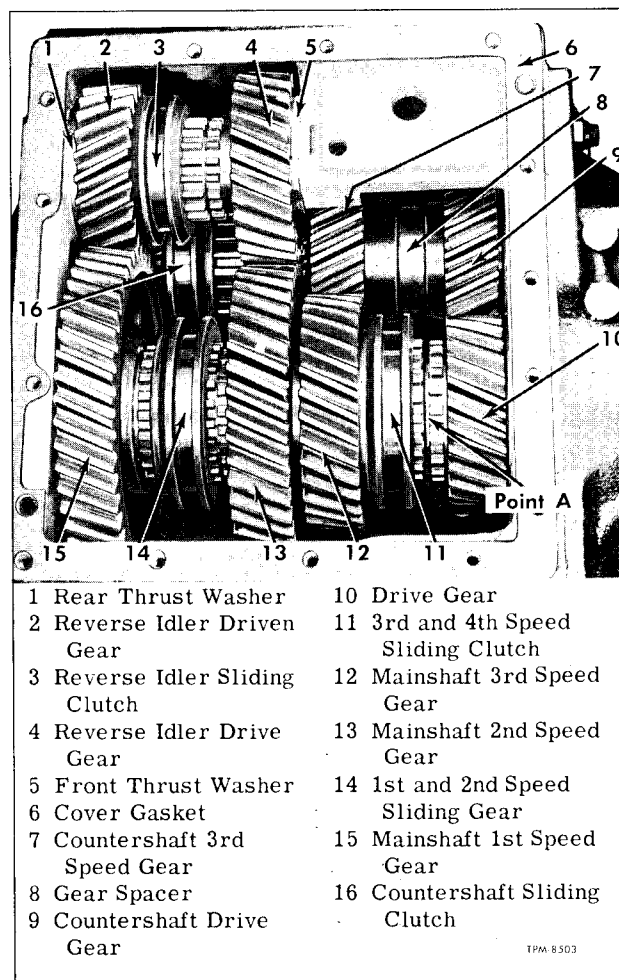

Figure 16—Transmission with Cover Removed
2. Use puller in tapped hole in reverse idler gear shaft and pull shaft out of transmission case. Referring to figure 16 remove reverse gears, thrust washers and bearings.